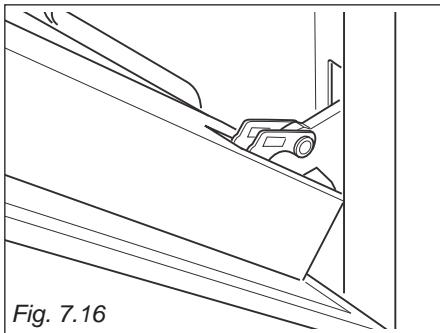

Fig. 7.16
- Gently close the door (fig. 7.16) until left and right hinge levers "A" are hooked to part "B" of the door (fig. 7.15).